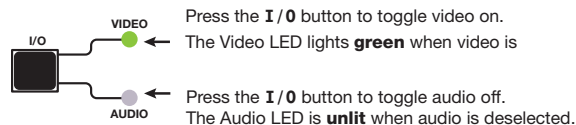

Figure 43. Selecting Video Only
2. **To select only video for the tie**, press and release the **I/O** button to toggle video on. The Video LED lights green when video is enabled. Deselect audio by pressing the **I/O** button until the Audio LED is unlit (see figure 43).